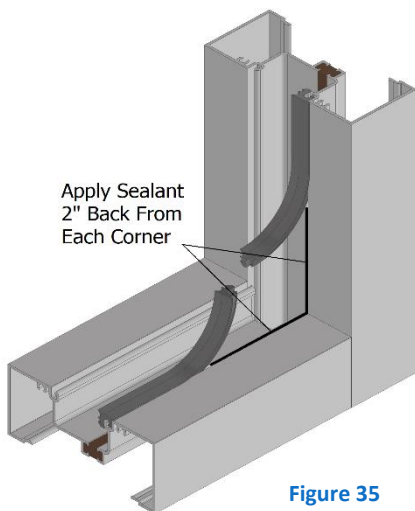

Figure 35
- 4. Pull gaskets back approximately 2" in both directions at all corners and apply sealant into glazing gasket reglet (figure 35).